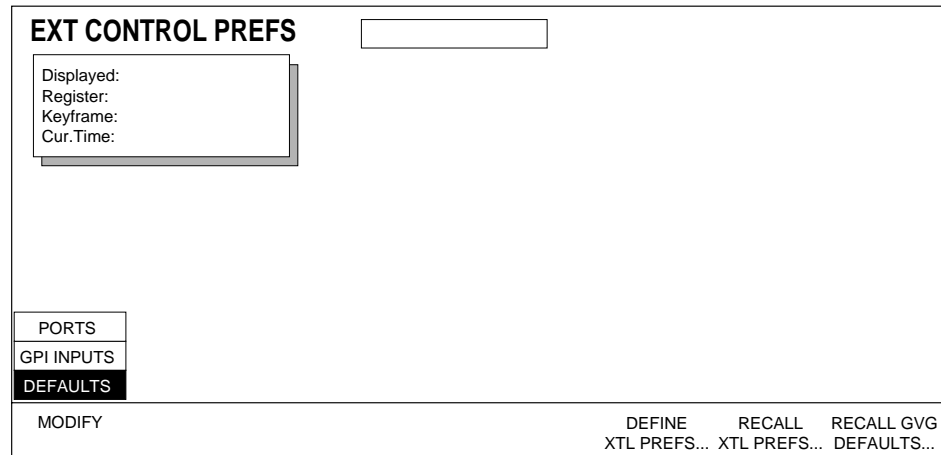

Figure 3-31. External Control Preferences, Defaults
4. Selecting **DEFAULTS** lets you define or recall External Control Preferences defaults (Figure 3-31).